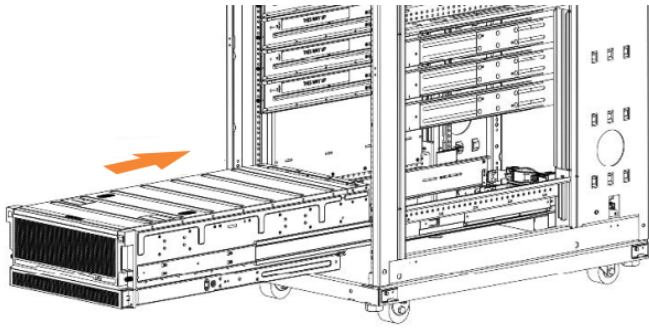

Figure 42. Example installation of the enclosure in the rack
- Install the expansion enclosure in the lowest position in the rack. Figure 42 on page 50 shows an example.